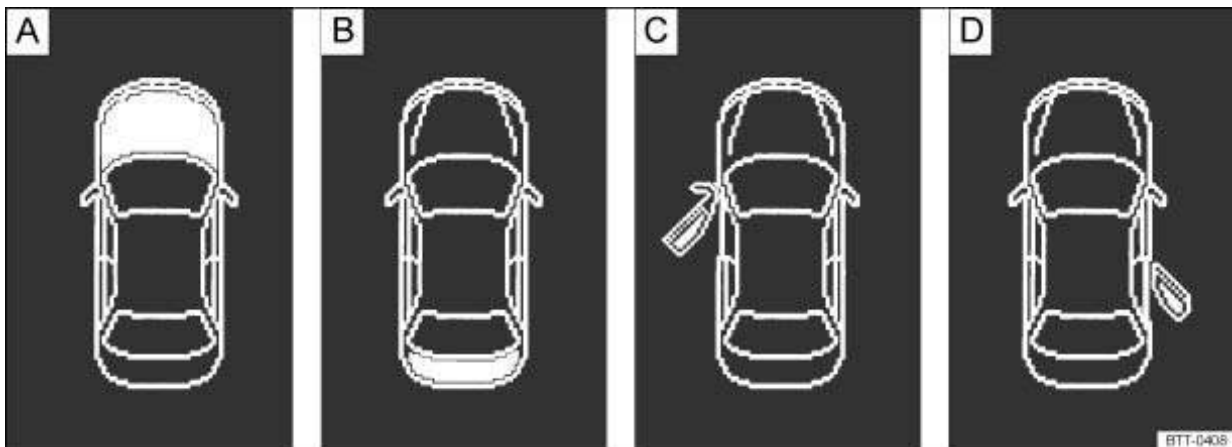

Fig. 12 A: bonnet open, B: tailgate open, C: front left door open, D: right rear door open (only in four-door vehicles)
- Open doors, bonnet and tailgate → Fig. 12